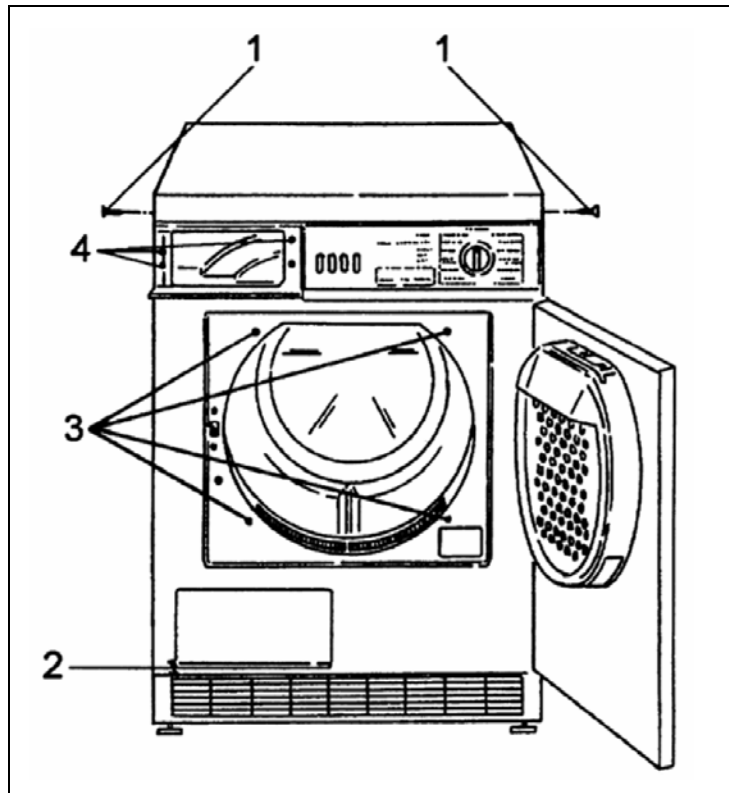

Figure 5-1: Lid Removal and Front Panel Access
1. Remove the screws from the side edges of the lid (Figure 5-1, Item 1).
1. Remove the four screws (Figure 5-1, Item 3).
2. Remove the condensed-water drawer and unscrew the three screws (Figure 5-1, Item 4).
3. Press the spring clip (Figure 5-1, Item 2) down with the lid opener and open the front panel.
2. Remove the four screws (Figure 5-1, Item 3).
3. Remove the two screws (Figure 5-1, Item 4).
4. Press the spring clip (Figure 5-1, Item 2) down with the lid opener and open the front panel.